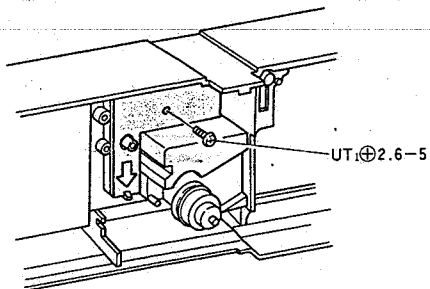

Fig. 17
- 1) Remove the screw and remove the LED circuit board-1 while depressing the tab. (See figure 17)